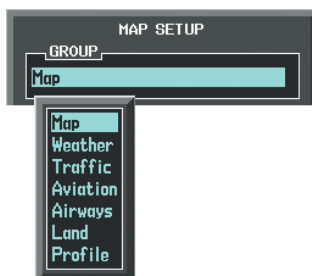

Figure 6-122 Navigation Map Page Setup Menu
- 4) Turn the small **FMS** Knob to select the 'Map' Group and press the **ENT** Key (Figure 6-122).